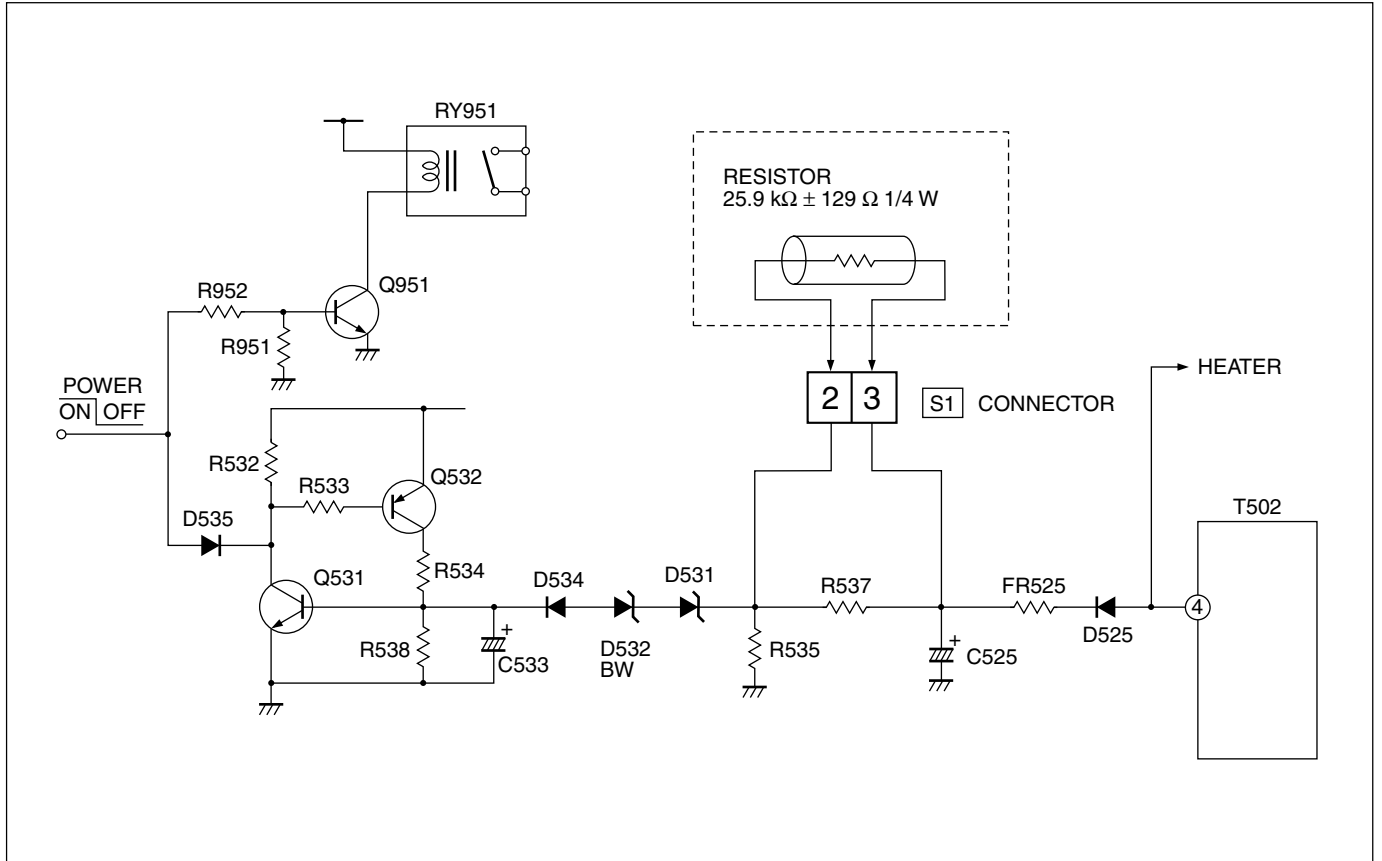

Fig. 1
- (1) Turn the POWER SW ON.
- (2) As shown in Fig. 1, set the resistor (between **S1** connector **2** & **3**).
- (3) Make sure that the screen picture disappears.
- (4) Temporarily unplug the power cord.
- (5) Remove the resistor (between **S1** connector **2** & **3**).
- (6) Again plug the power cord, make sure that the normal picture is displayed on the screen.